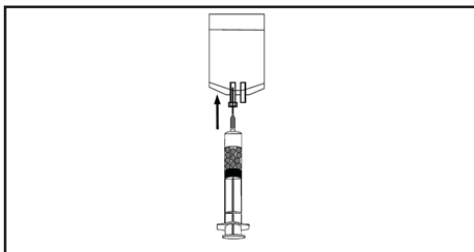

Figure 7.
- 1.4 While keeping syringe upright and taking care not to disrupt settled microspheres, attach a sterile filter needle to the product syringe. Insert the filter needle into a waste container, with the needle pointed upward, eject transport solution until a small amount (1 ml or less) of solution remains in the product syringe. Do not compress the microspheres by leaving a thin layer of transport solution covering the microspheres. (Figure 7)